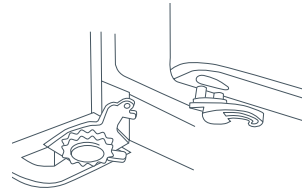

Fig.5 Closing hook
- Remove the old hinge bearing closing hook from the door (refer Fig.5).